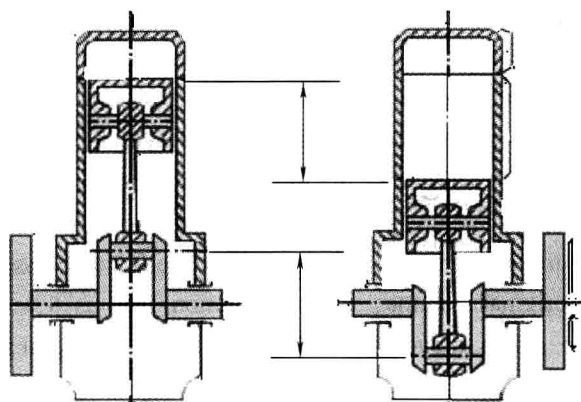

Fig. 1-2 Terms of an Engine
The actions of the piston are divided into four strokes. "Stroke" refers to piston movement. A stroke is piston movement from TDC (top dead center) to BDC (bottom dead center) or from BDC to TDC. The upper limit of piston movement is called TDC (top). The lower limit of piston movement is called BDC (bottom). In other words, the piston completes a stroke each time it changes its direction of motion. See Fig. 1-2.
11. Please write down the terms “stroke, TDC, BDC, clearance volume” in Fig. 1-2.